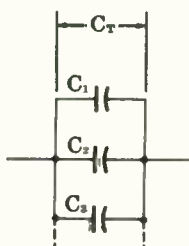

Fig. 16.
*Capacitors in parallel (Fig. 16)*